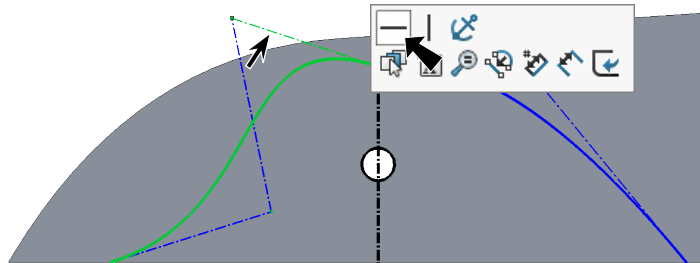

Fig. 72
Step 11. Click **top control polygon segment** of first style spline and click **Make Horizontal**  on the context toolbar, **Fig. 72**.